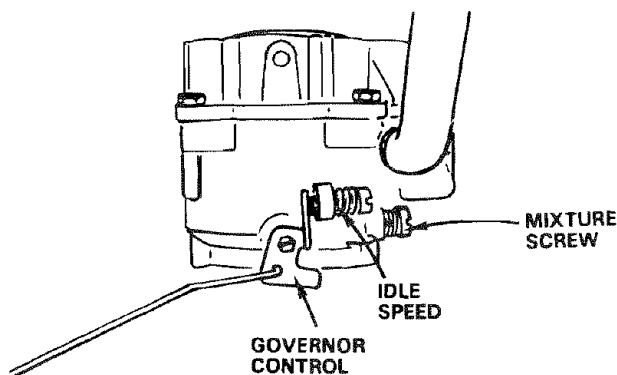

FIGURE 31
- Gently turn idle mixture valve clockwise (↻) Fig. 31 until it just closes and then counterclockwise (↺) 1 1/2 turns.
- Hold governor control lever against idle speed screw, and adjust idle speed screw to obtain 1200 to 1400 RPM. Fig. 31.